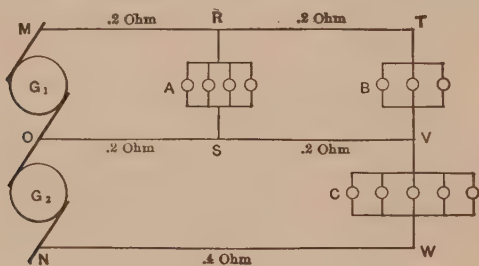

FIG. 99.
**Prob. 117.** Assume that each lamp in Fig. 99 takes 2 amperes, and that the resistance of the lamps remains constant. The brush potential of each generator is 112 volts. Find: